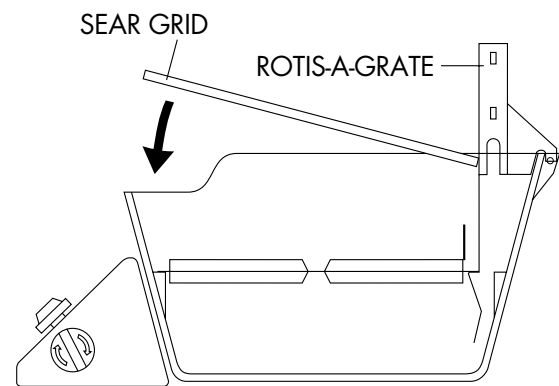

FIG. 35
8. Put the ROTIS-A-GRATE® into position, being sure the tabs on the back lock over the back edge of burner box. (See Fig. 35)
11. Replace SEAR GRID®. (See Fig. 35)